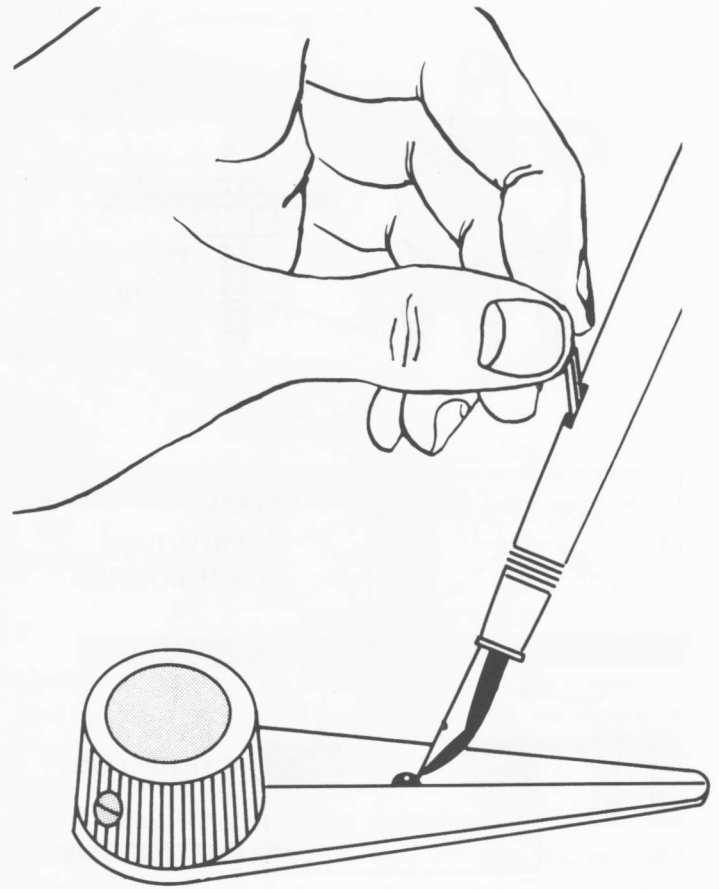

Fig. 14
11) Put a dark line in the outer groove of the plastic as follows. Place the knob and pointer on a protective sheet of paper on a level table. Apply a drop of ink to the groove with a fountain pen, as shown in Fig. 14. Then spread the ink along the entire groove with the point of the pen. The ink will flow into the groove. If there is any excess ink outside the groove, blot it up with a blotter or a piece of tissue. Let the groove dry in a level position. If necessary, repeat the process to obtain a darker line.